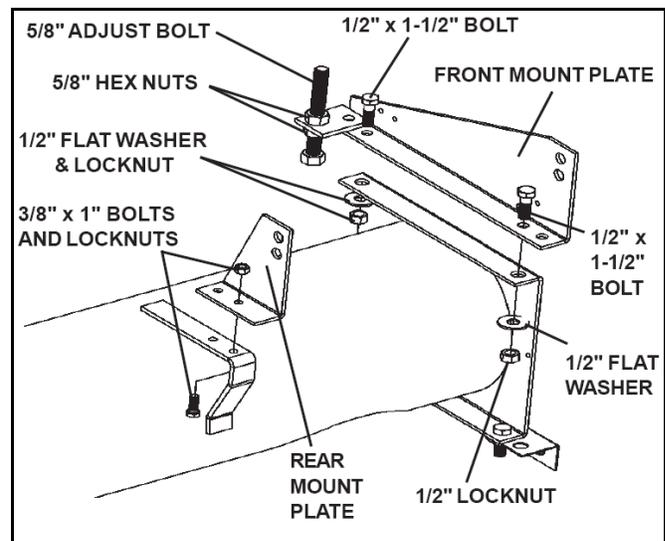

Figure 3.4 Head Plate
1. Install front mount plate onto head plate using two 1/2" x 1 1/2" bolts, locknuts, and 1/2" flat washers, as shown in Figure 3.4. Tighten securely.
3. Assemble rear mount plate onto tube bracket as shown in Figure 3.4. Using two 3/8" x 1" bolts and locknuts, tighten securely.